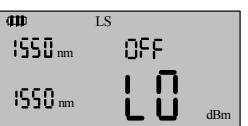

Figure 12 Light Source Mode
Press **Func** to change between light source (LS) and power meter (PM) mode. The unit operating in light source mode is shown in Figure 12.
The unit operating in light source mode is shown in Figure 12. "OFF" indicates that the light source is off. If the light source is on, a power value or modulation frequency will be displayed in this field.